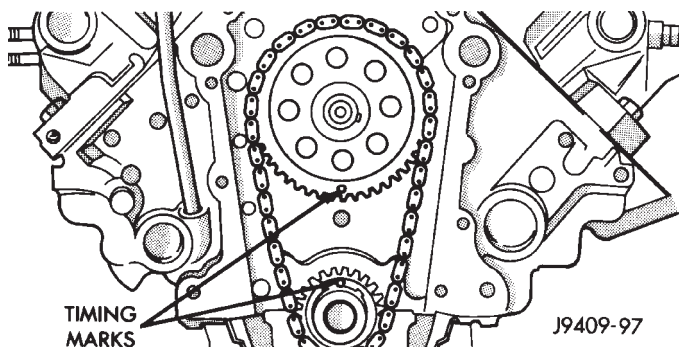

Fig. 26 Alignment of Timing Marks
(1) Place both camshaft sprocket and crankshaft sprocket on the bench with timing marks on exact imaginary center line through both camshaft and crankshaft bores.
(2) Place timing chain around both sprockets.
(3) Turn crankshaft and camshaft to line up with keyway location in crankshaft sprocket and in camshaft sprocket.
(4) Lift sprockets and chain (keep sprockets tight against the chain in position as described).
(5) Slide both sprockets evenly over their respective shafts and use a straightedge to check alignment of timing marks (Fig. 26).